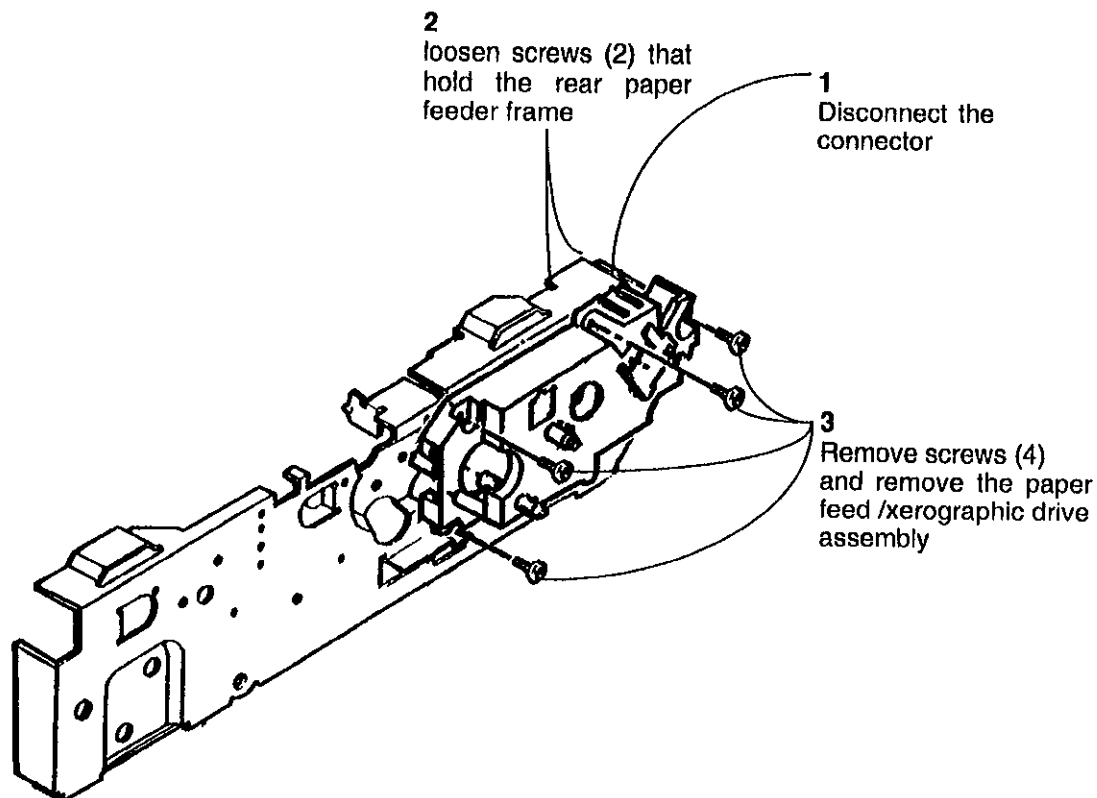

Figure 1. Removing the Drive Assembly
- 3 (Figure 1). Remove the paper feed/xerographic drive assembly.